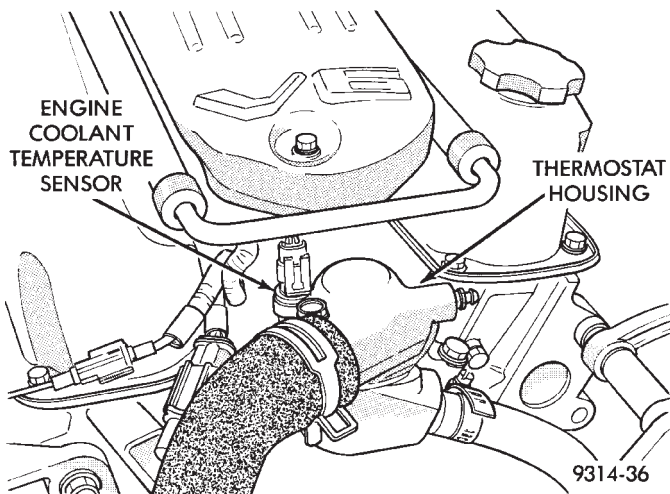
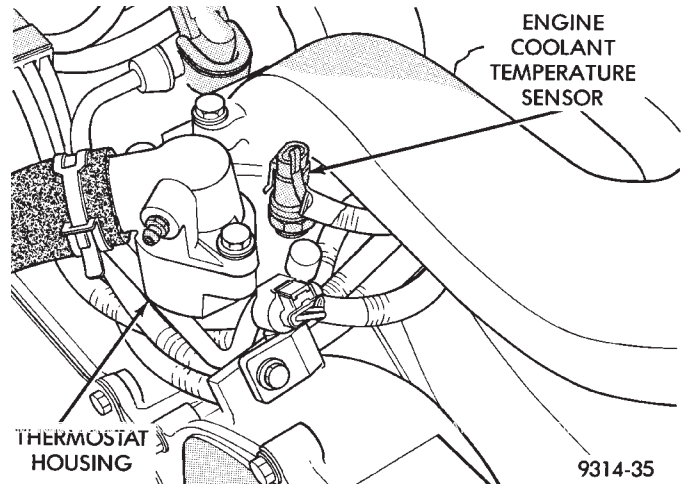

Fig. 40 Engine Coolant Temperature Sensor—3.3L Engine
Fig. 41 Engine Coolant Temperature Sensor—3.5L Engine
(7) Verify the electrical connector is attached to the engine coolant temperature sensor (Fig. 40) or (Fig. 41).